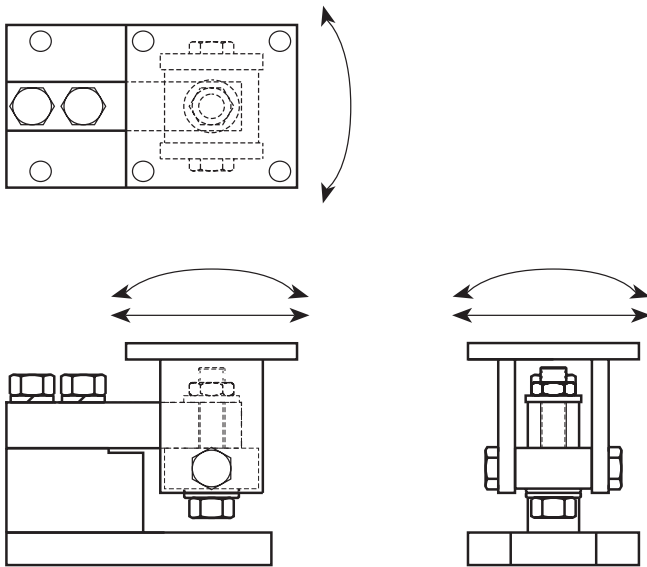

Figure 2-7: RL1800
Figure 2-7 illustrates the RL1800 module with arrows indicating allowable movement.
- 3) A chair arrangement is attached to the trunnion block through pivot screws, and the load is applied to the top plate of this chair. This arrangement allows the chair to move in the directions indicated in Figure 2-7.